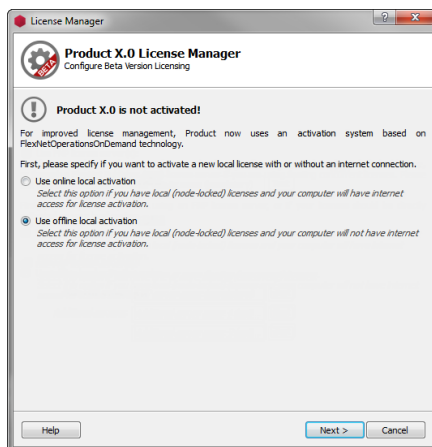

Figure 1.23: License Manager - Beta Activation Wizard - Configure Beta Version Licensing Offline
- You must select **Use offline activation codes** and click **Next** (see Figure 1.23).